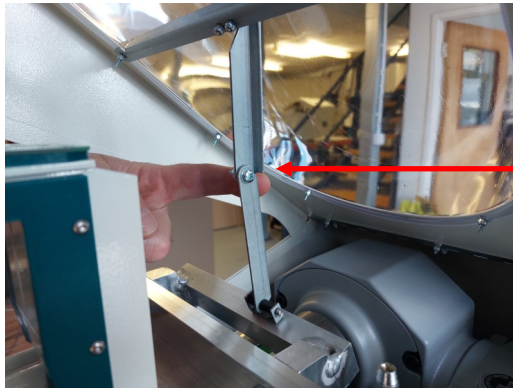

Figure 14
1. Lift the plastic dome cover and lock it in the up position by pulling the center joint of the prop towards you. As shown in figure 14.